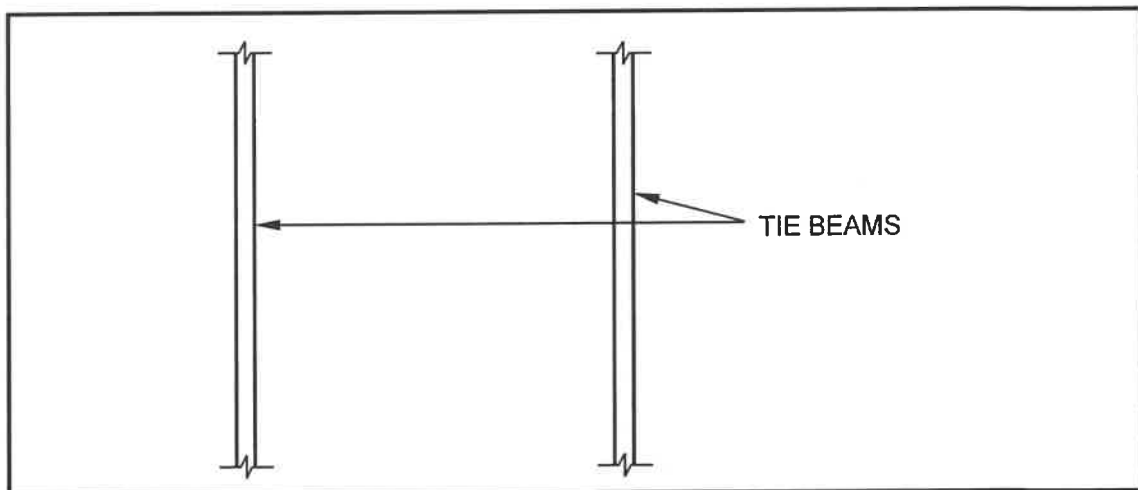

FIGURE 4.3
4.3 FIGURE 4.3 below shows an incomplete view of the constructional detail of the framework for a trap door.